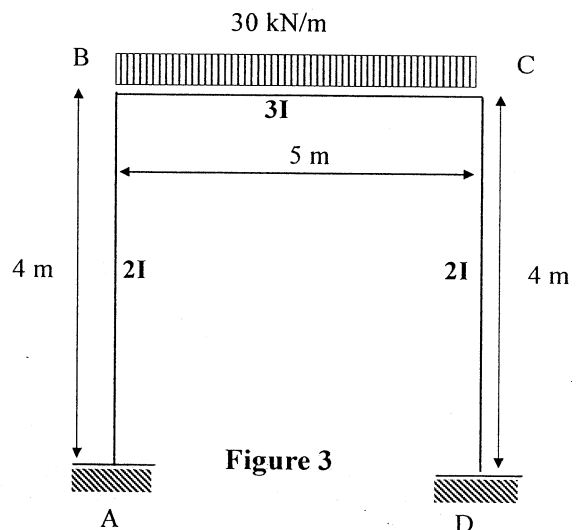

Figure 3
- (b) A portal frame structure is loaded as shown in Figure 3. Analyse the structure using **Moment Distribution Method** and draw the bending moment diagram. Second moment of area of members are shown close to respective members in the figure. (14 Marks)